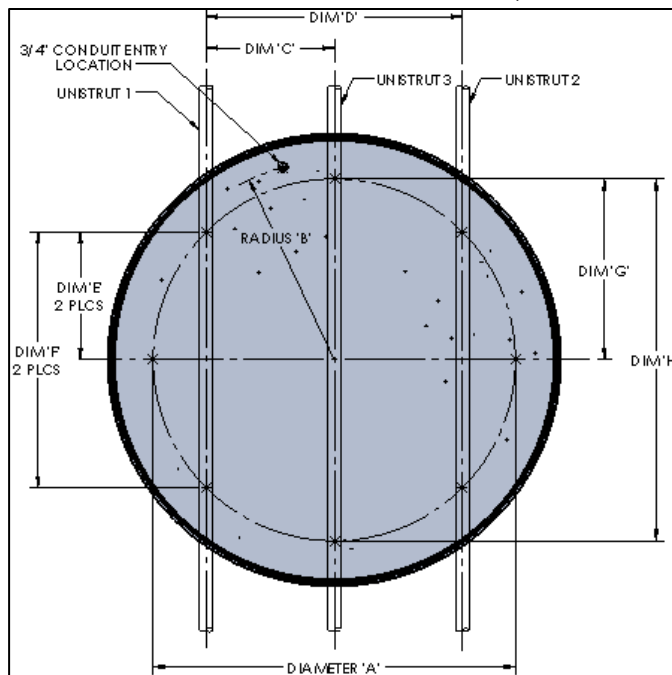
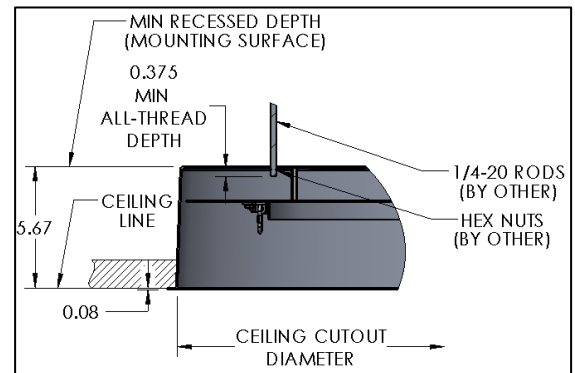

FIG. 5 – MOUNTING INFORMATION
FIG. 6 – THREADED ROD INSTALLATION
2. Install UNISTRUT per dimensions shown in FIG.5 [prior to closing ceiling].
4. Install UNISTRUT into 1/4-20 THREADED RODS in locations shown in fig. 5. [24" and 36" sizes will have four rods and the 48" size will have six]. 1/4-20 THREADED RODS should protrude through the RECESSED HOUSING by a minimum of 0.375" and a maximum of 0.5", as shown on FIG.6.
5. Route conduit (by other) to conduit entry location as shown in FIG.5.